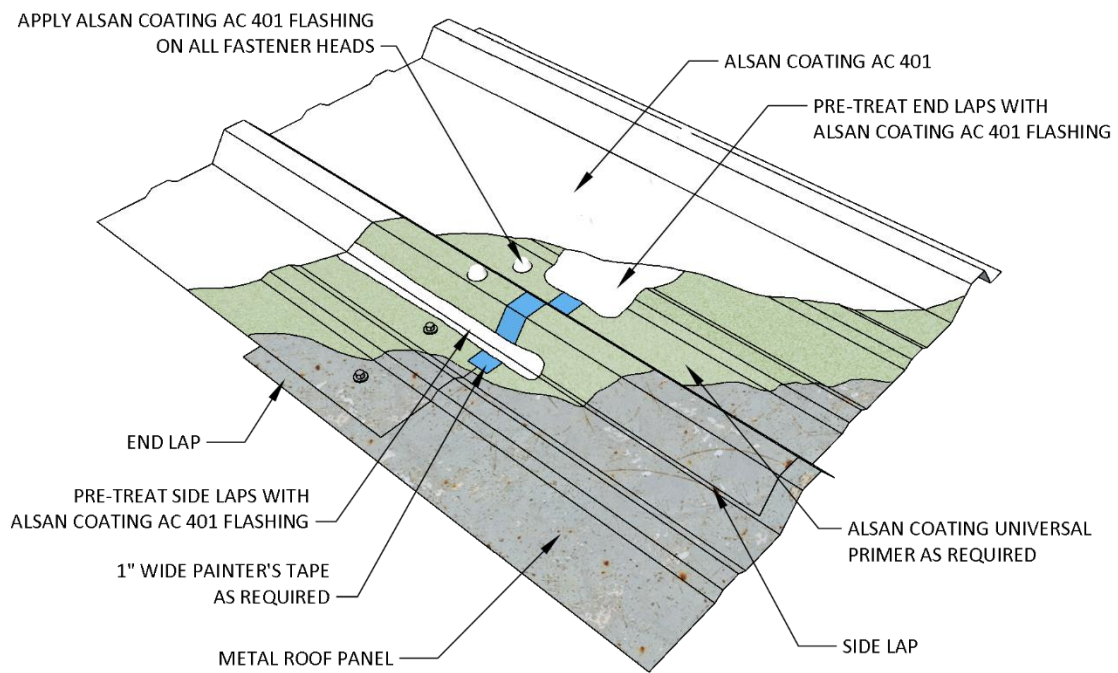

Figure 2.2q Acrylic Roof Coating Over Metal Lap Panels, Side/End Laps
- Refer to flashing detail guidelines indicated in Figures 2.2q through 2.2t.